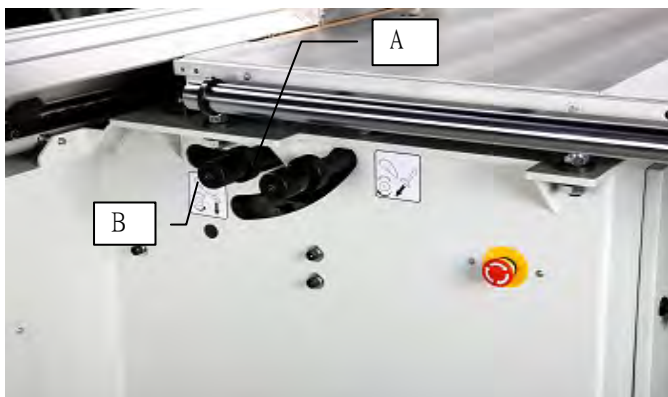

fig 3-11.1
- Set the saw blade in 90 degree by turning the handwheel A (fig. 3-11.1)
- Loosen knob B (fig 3-11.1), turning knob A(fig 3-11.1) clockwise to set the sawblade upward
- Lock knob B (fig 3-11.1)